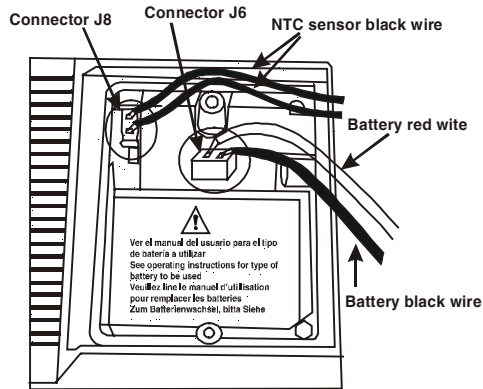

Figure 16.- Battery receptacle.
5. Connect the battery to connector J6 next to the battery receptacle, as well as the NTC sensor cable to connector J8 (see figure 16). Each connector has only one position.